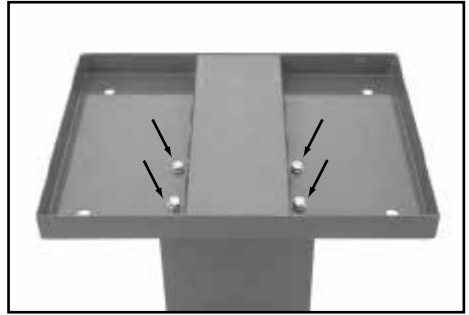

FIG.1
8.1 SUPPORT COLUMN (98422 ONLY) – FIGS.1 - 3